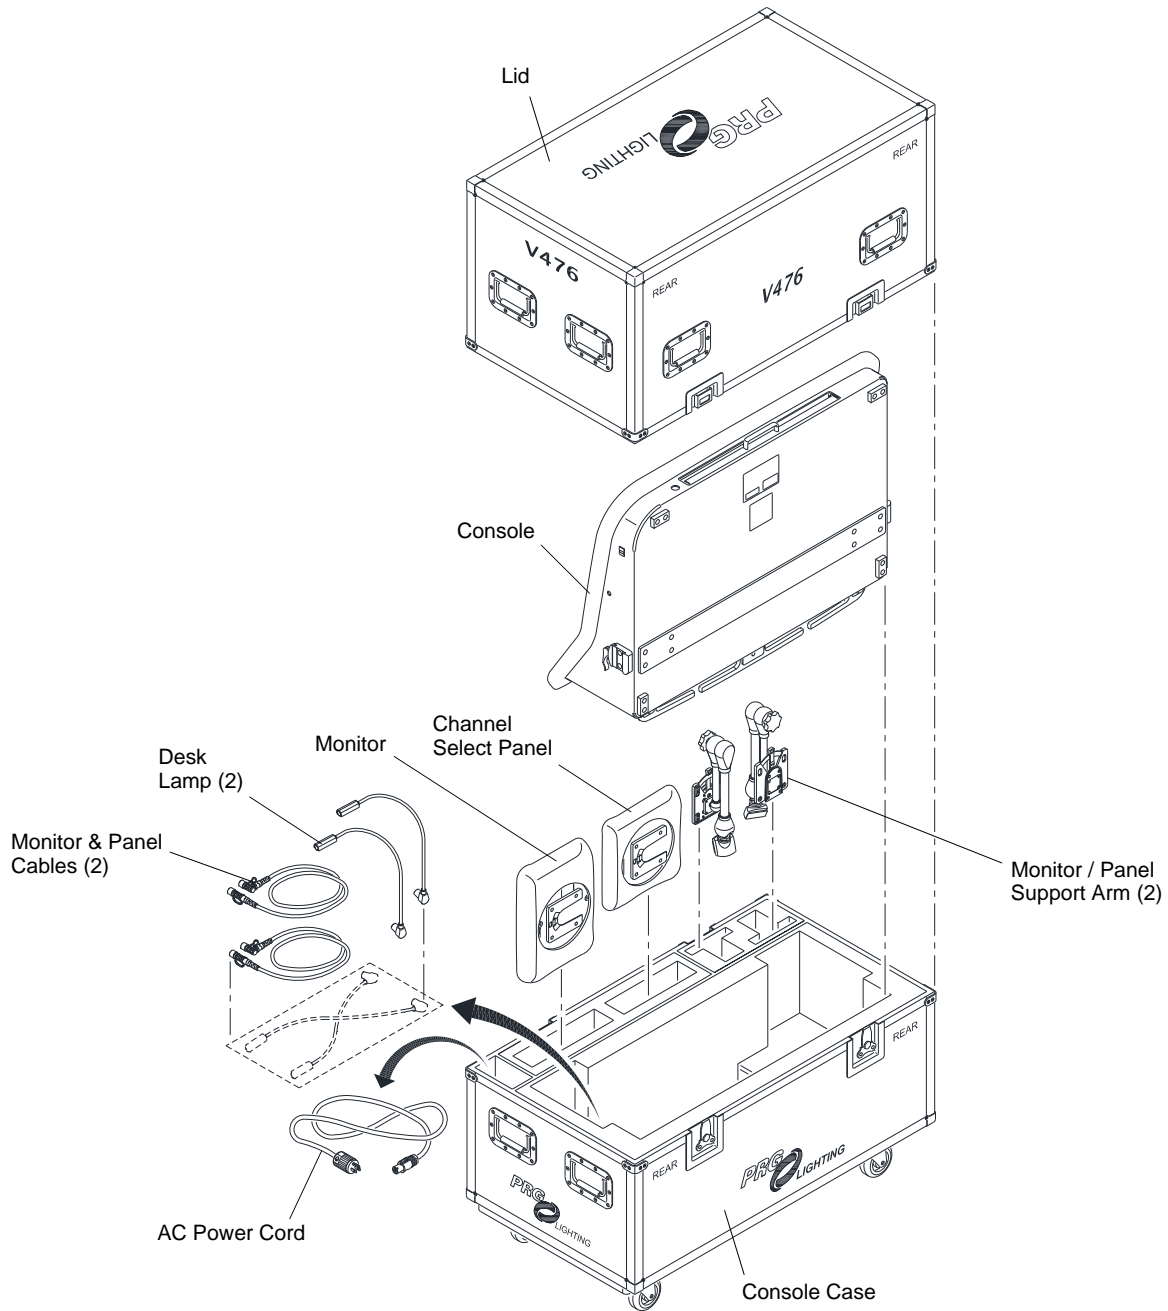

Figure 1-15: V476 Console Case Contents
- Step 1. Remove lid from console case (Figure 1-15).